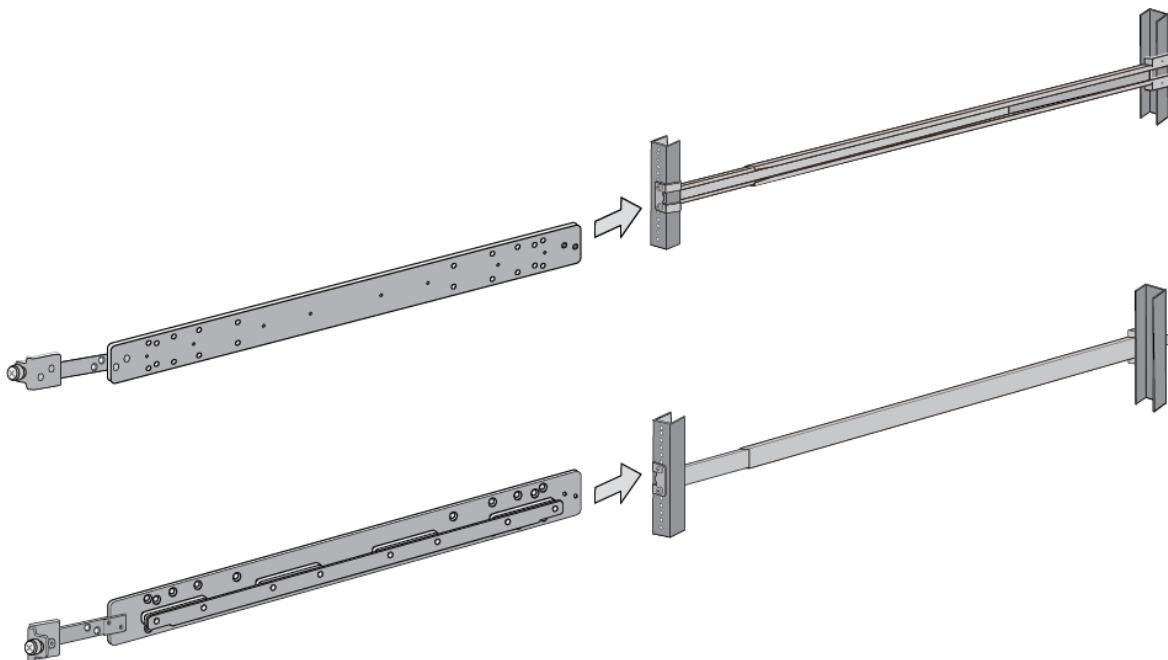

Figure 16. Testing the Inner Rails with the Extension Brackets
4. To test the lengths of the extension brackets, slide the inner rails into the outer rails in the equipment rack. Refer to Figure 16.